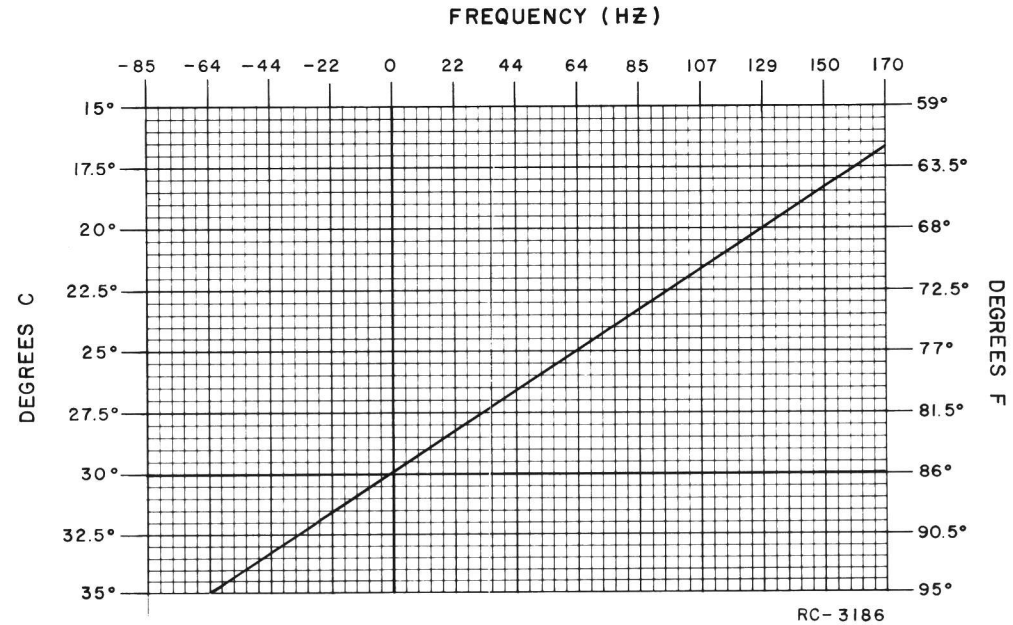

Figure 3 - Frequency Offset Chart
2. Maintain the radio at 30°C ($+5^\circ\text{C}$, -15°C) offset the operating frequency as a function of actual temperature, by the amount shown in Figure 3.